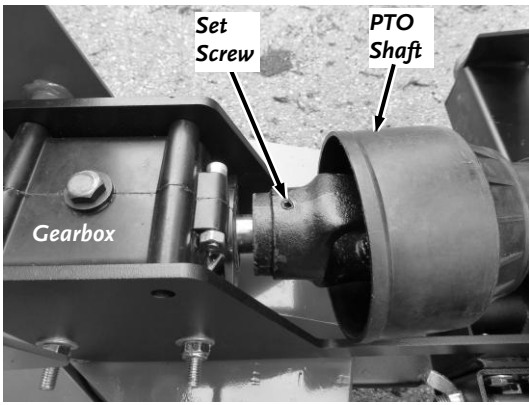

Figure 17
- Align the Key Slot of the PTO Shaft with the Key in the Shaft and slide it onto the Shaft (Figure 17).